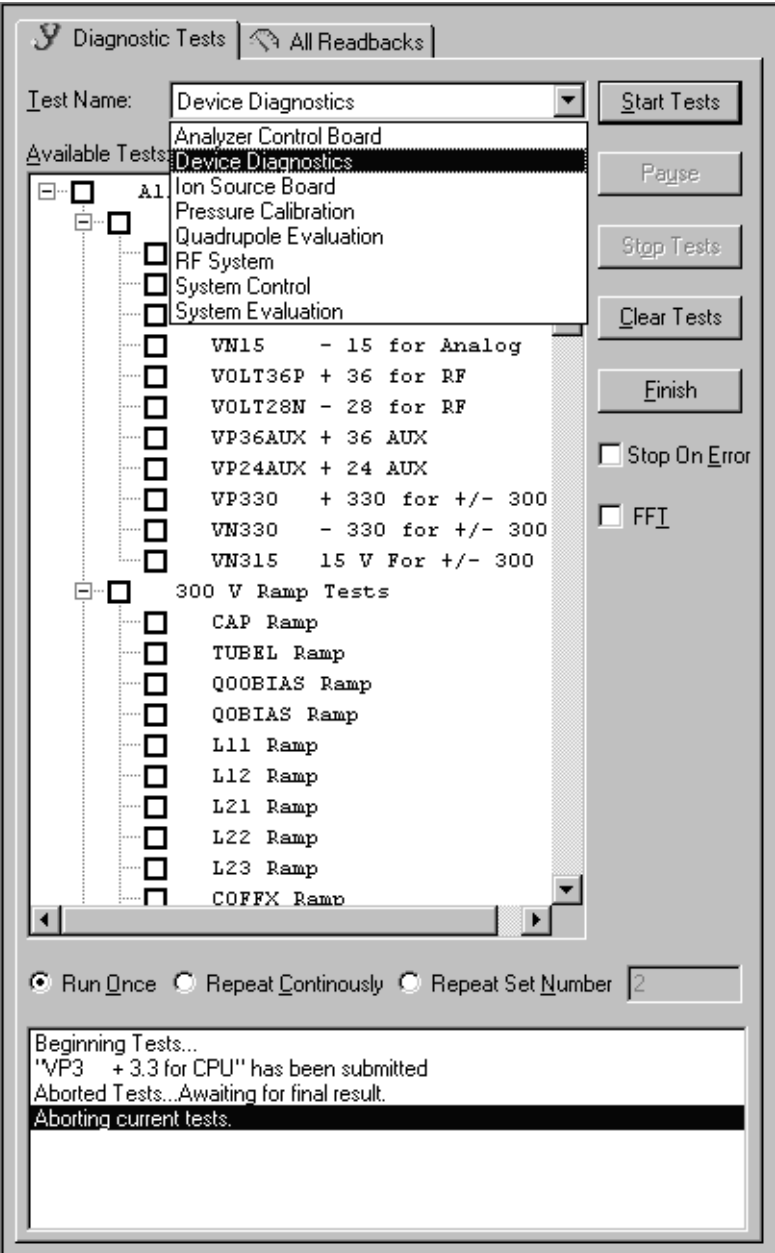

Figure 7-1. Diagnostics view
3. In the Tune Master window, choose **Workspace | Diagnostics** to display the Diagnostics view. See Figure 7-1.